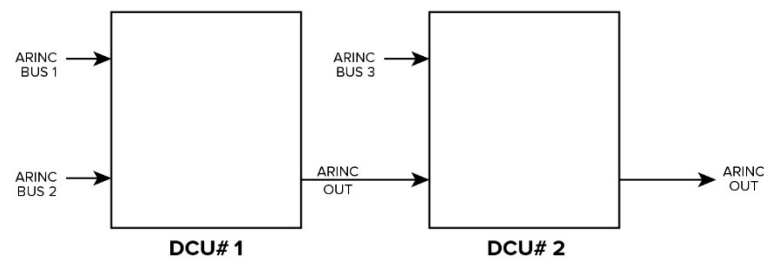

Figure 3. DCU to DCU connection
- a. If an installation requires ARINC data from 3 distinct ARINC data busses, DCU's can be daisy-chained together as shown in Figure 3 below.